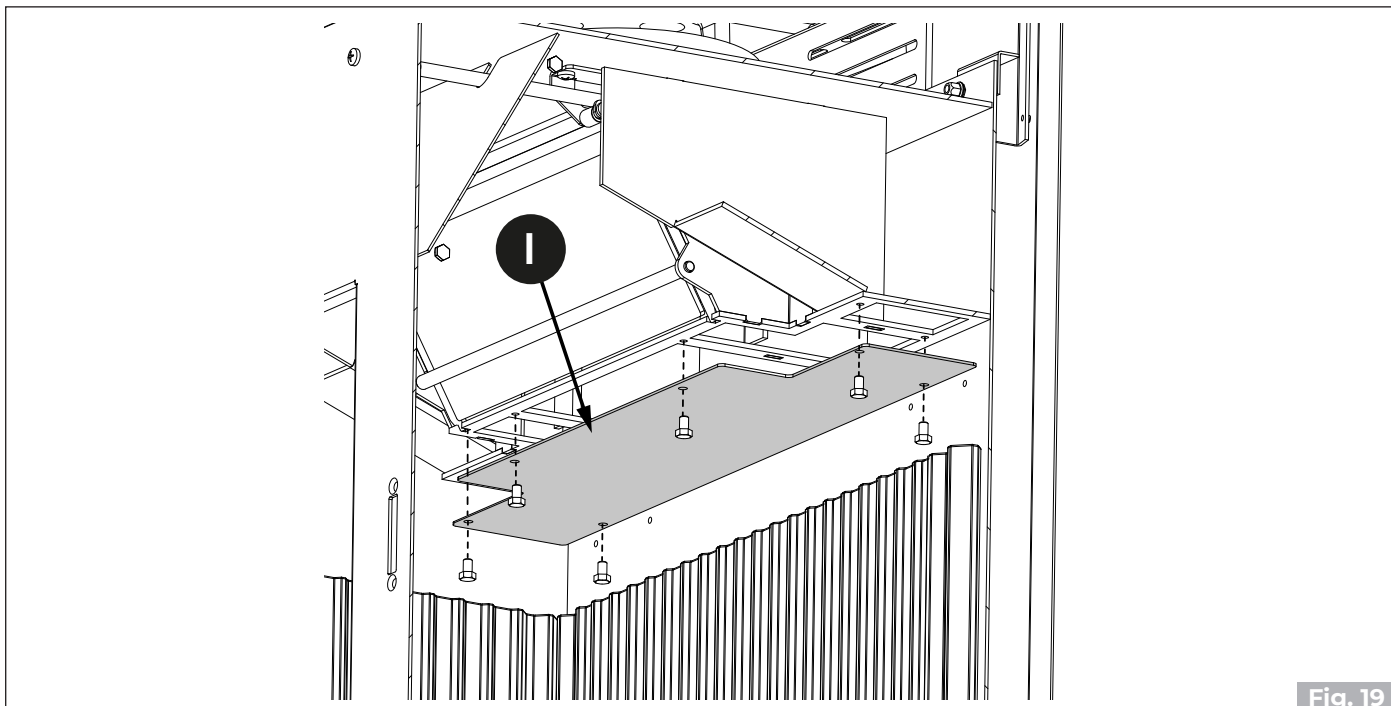

Fig. 19
Remove the smoke collector cap (I) "Fig. 19"